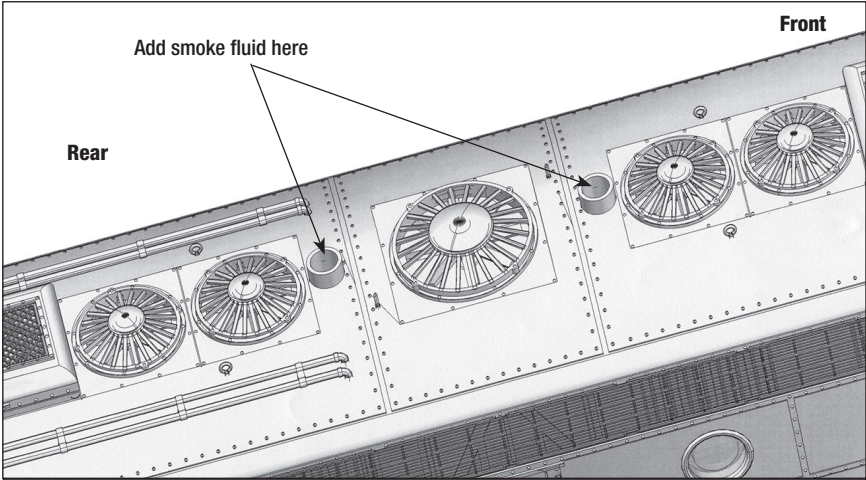

Figure 3. Stack location
**B**oth locomotives are equipped with a smoke generator that produces safe, clean, white smoke during operation. Add 10-20 drops to the duct (shown in Figure 3) to prime the units the first time you run the locomotive set or after being stored for an extended period of time, and then add 10 to 20 drops to refill when smoke production decreases. When refilling, **DO NOT EXCEED 20 DROPS** as this can cause your smoke units to become oversaturated allowing leakage onto the electronics. Note that operating your locomotives' smoke units without smoke fluid will cause damage to the heating element.